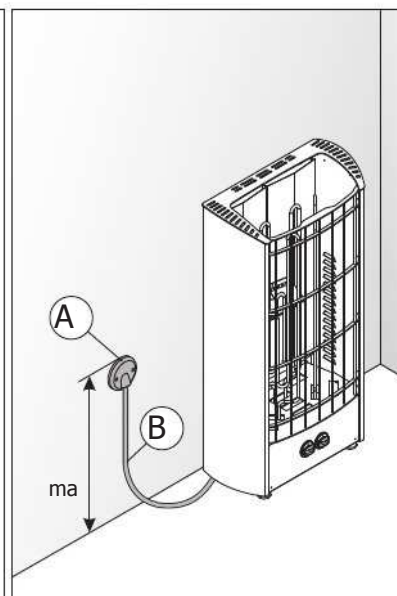

Figure 7. Cables
- The heater is semi-stationarily connected to the junction box (figure 7: A) on the sauna wall. The junction box must be splash-proof, and its maximum height from the floor must not exceed 500 mm.
- The connecting cable (figure 7: B) must be of rubber cable type H07RN-F or its equivalent.